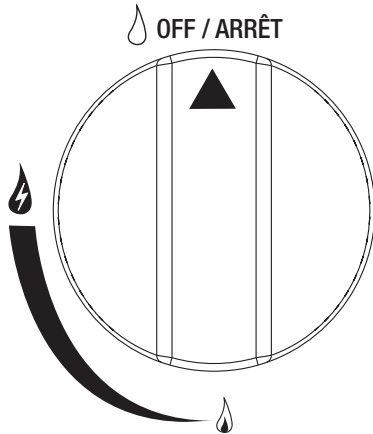

Figure 4
- Clear small area of glass rocks away from the igniter cover (Figure 4).
- Wearing heat-resistant gloves, position a lit long match or lit long butane lighter near the pilot housing (Figure 4).